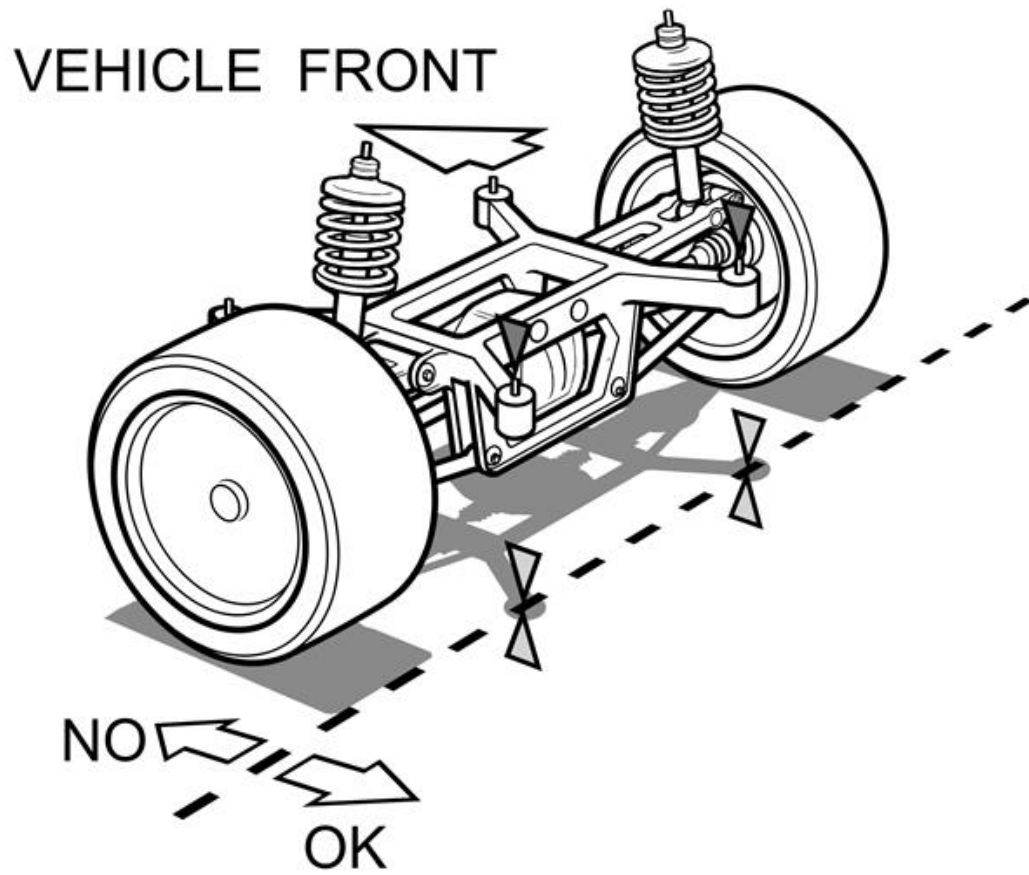

Figure 3
E. Rear suspension examples are in Figures 3 and 4.